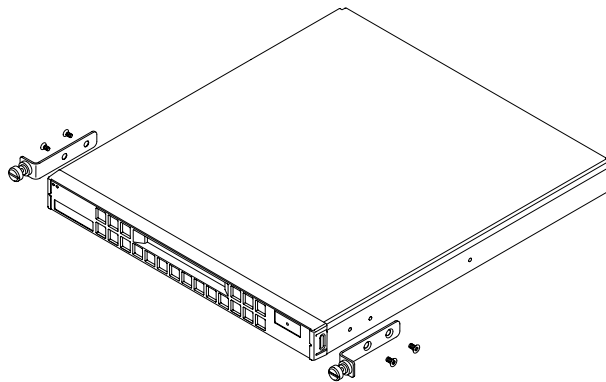

FIGURE 3 Removing the Rack Mount Brackets from the Side of the System
3. Remove the rack mount brackets from the side of the system (see FIGURE 3).